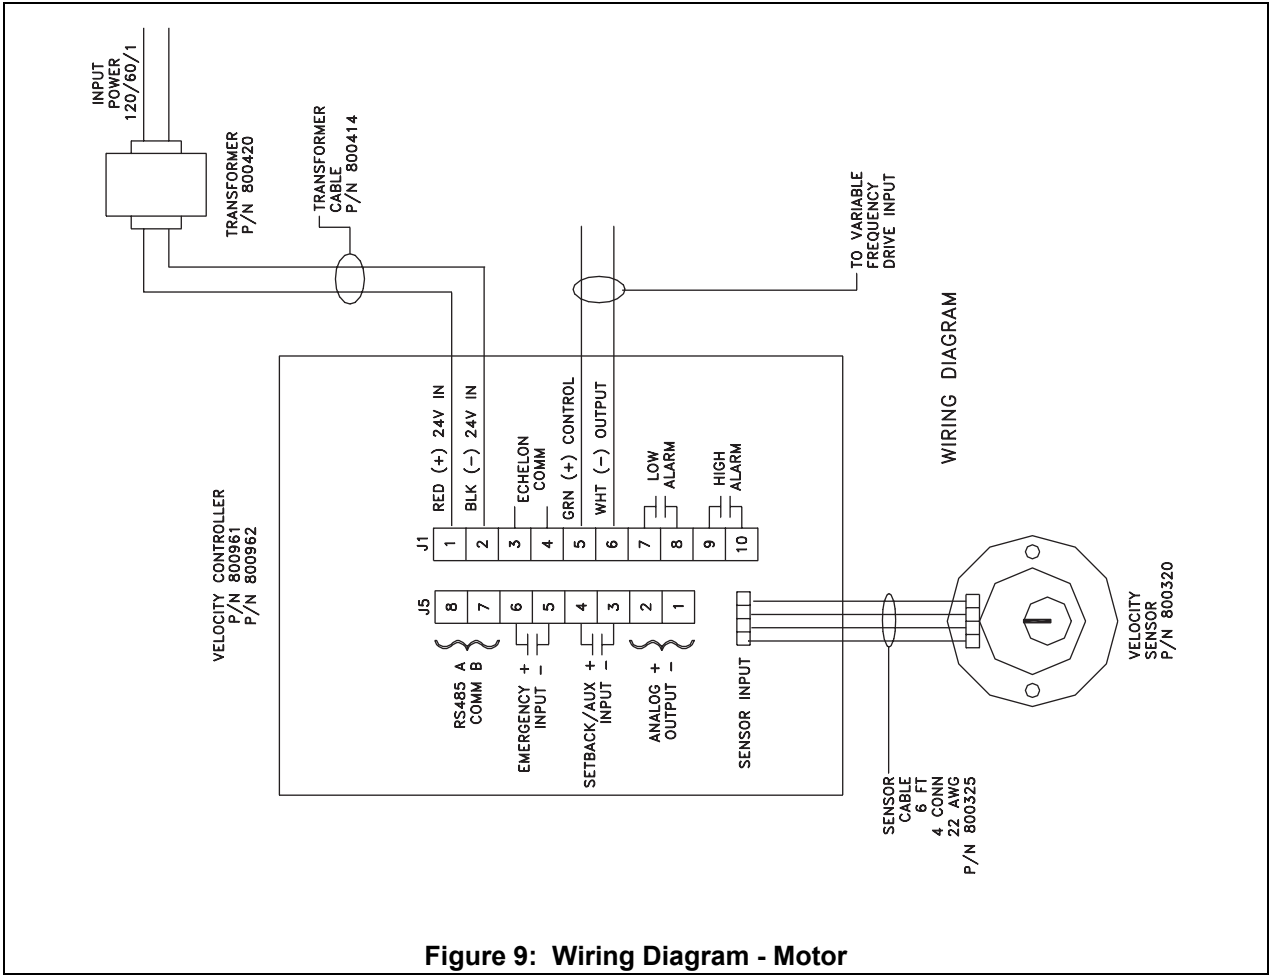

Figure 9: Wiring Diagram - Motor
- Refer to the wiring diagrams, Damper Versions (Figure 10) and Motor Versions (Figure 9), for proper wiring installation.